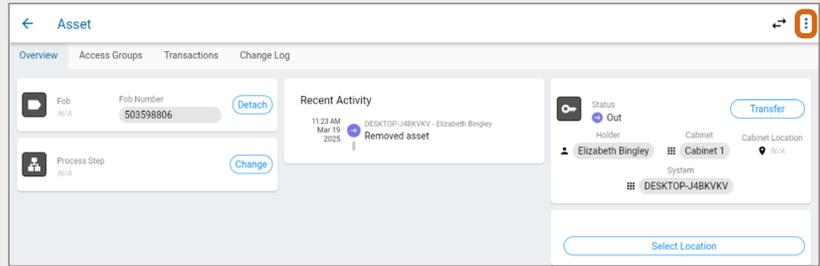

Fig. 53 – Unregistered asset Overview tab
9. When the unregistered asset is found, click the **quick action menu**  in the upper right of the **Asset details** screen, as shown in Fig. 53.